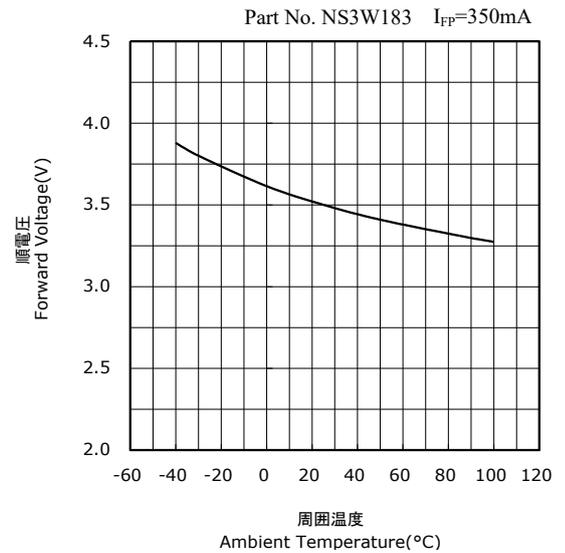

Figure 4. Ambient Temperature vs. Forward Voltage
(1) The LED's forward voltage ( $V_F$ ) is measured at a specific increment of ambient temperature ( $T_A$ ) using a thermostatic chamber.
(2) Making a graph of Ambient Temperature vs Forward Voltage from the measurement result (1).
- ※Example: Figure 4 indicates the ambient temperature vs forward voltage properties for Part No. NS3W183.
(3) In a windless environment, turn on the LED with DC and measure the  $V_F$  once it is in a thermal equilibrium state.
(4) The  $T_J$  can be calculated by the  $V_F$  measured, using the ambient temperature vs. forward voltage graph.